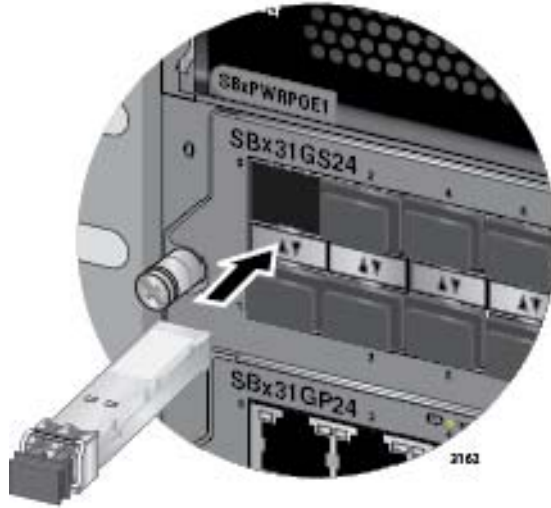

Figure 86. Inserting an SFP Transceiver in the AT-SBx31GS24 Line Card
- Slide the transceiver into the slot until it clicks into place, as shown in Figure 86.